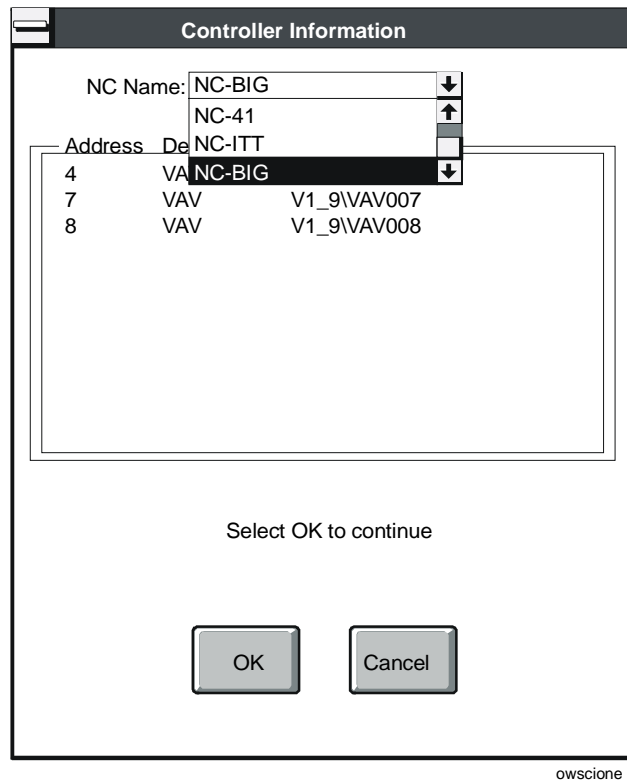

Figure 16-13: OWS - Controller Information Dialog Box
2. Select Single Device. HVAC PRO software builds a list of all NCUs on the active network. The dialog box in Figure 16-13 displays.